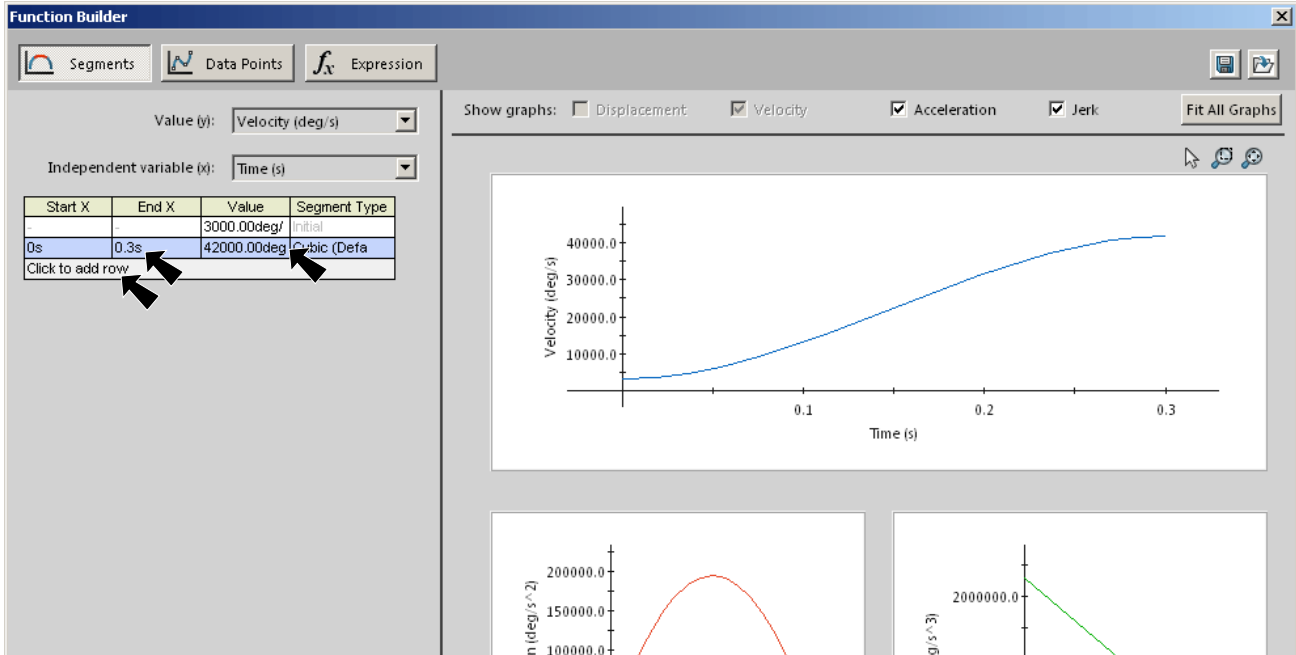

Fig. 8
Step 5. In the Segments chart, **Fig. 8**